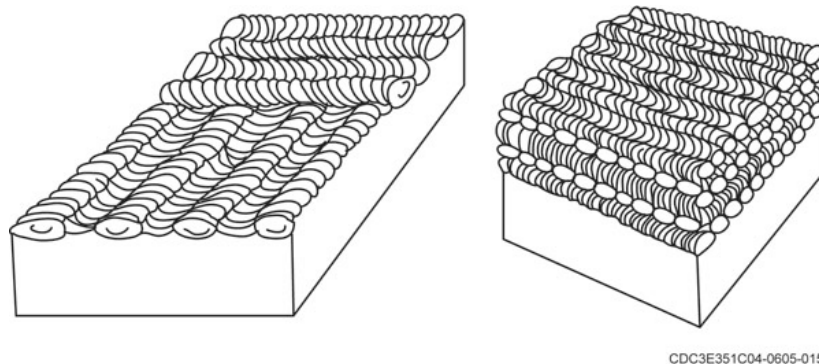

Figure 1-13. Padding layers.
Padding or surfacing (building up) is a welding operation we use to increase metal thickness (T). You can use it to build up worn parts to their original dimensions or to build up a flat surface. Padding large parts is generally done in stringer bead layers welded at right angles to each other (fig. 1-13). Padding small parts is usually done in a thin metal layer or layers. You can produce it by weaving your electrode to produce a wide and thin cross section bead.